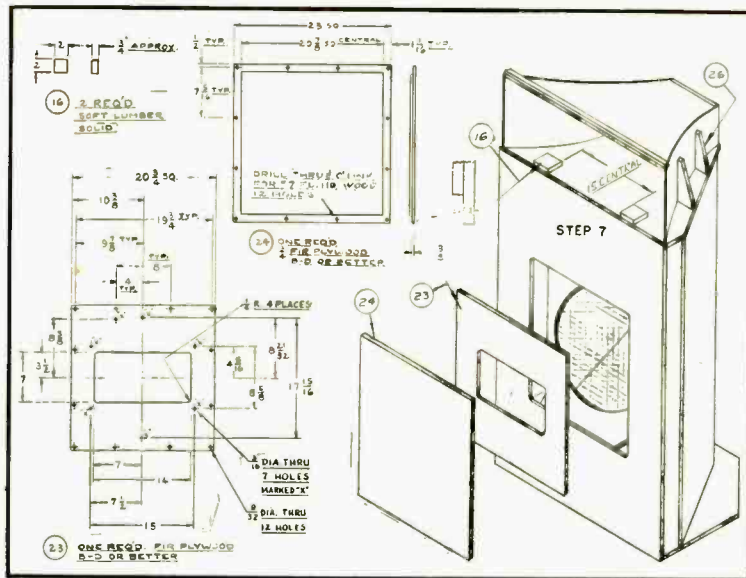

Fig. 4. Steps for assembling the diffraction horn to the low-frequency section.
Step 7 shown in Fig. 4, is the completed erection of the Patrician horn assembly with mid-bass diffraction horn housing added, and details 16, 23, 24, and 26. (Note detail 26, an acceptable alternate serving the purpose as well as the curvilinear detail 25 indicated in step 6, and easier for most of us to make, unless blessed with special tools for routing the top of part 3, shown in step 6).
Glue and nail cleats 16 to 3, Fig. 4, which is the top of the folded horn; keeping 1 at right angles to 3, glue and nail gussets to suit. And make sure that an airtight seal exists where the diffraction horn sub-assembly sits atop the K horn. Do this by adding adhesive-backed, airtight sponge rubber weatherstripping, $\frac{1}{8}$ by $\frac{3}{4}$ in. along the inner outline of 24. Do the same around the exterior of the front loading panel opening in 23.